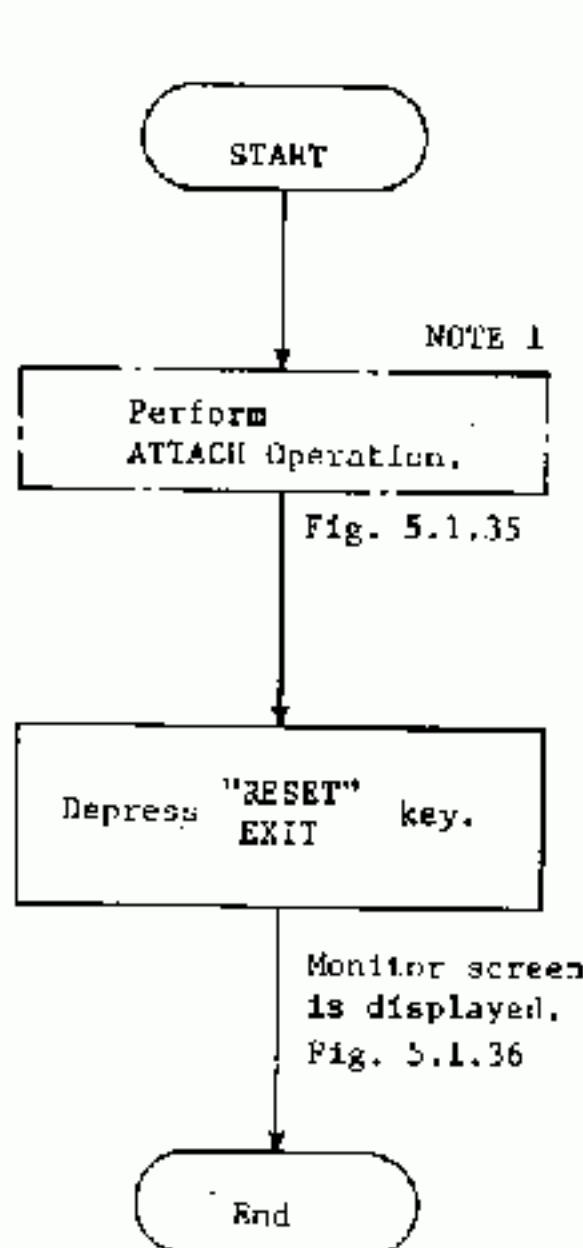

Fig. 5.1.35
3. When "SHIFT" and "RESET" _{EXIT} are depressed simultaneously, the display returns to that shown in Fig. 5.1.35.